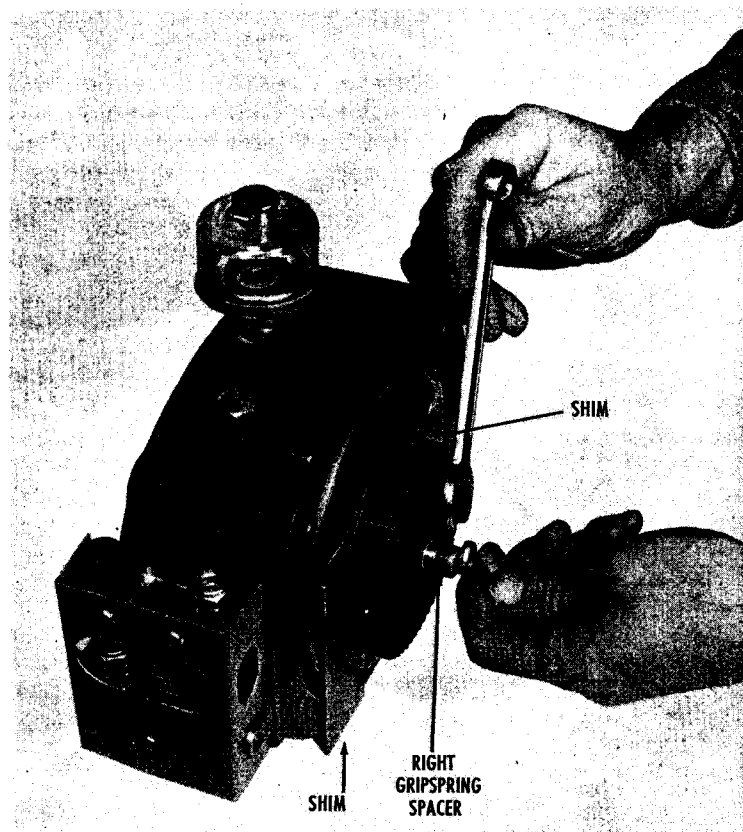

FIG. 13 TIMING BELT PULLEY INSTALLATION
- 13.9.1 Place two 1/8" shims under the timing belt pulley as shown in Fig. 13.